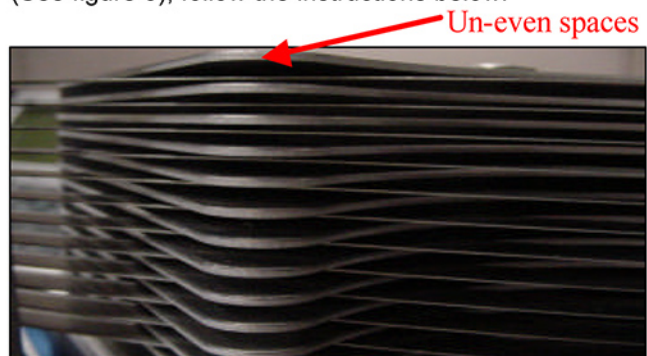

Figure 3
10. If one or more of the blades are not aligned properly (See figure 3), follow the instructions below.